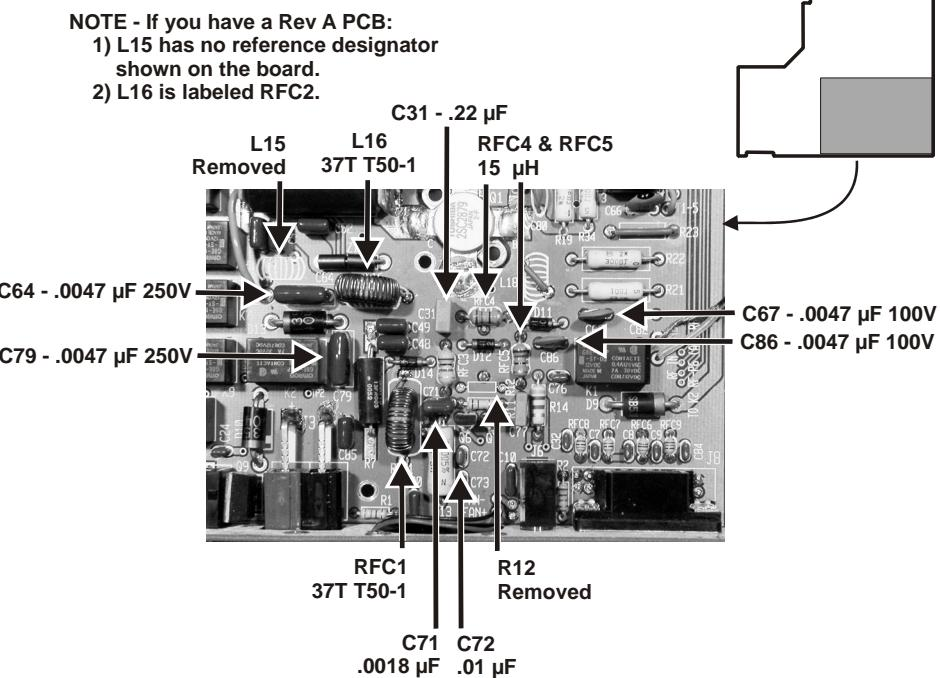

Figure 5. T/R Switch Components.
- Verify that C80 and C81 are 4700 pF. Normally the capacitor values will be shown as (472). If not or you can't see the values, replace them with the capacitors supplied.
7. **Page 6, Figure 5:** Cut out the new figure 5 below and paste it over figure 5 in the manual.